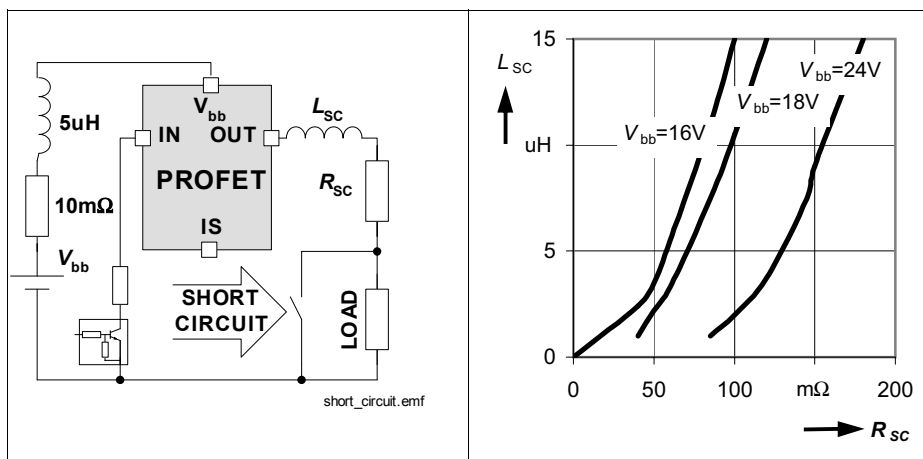

Figure 13 Short circuit
- 1) Short circuit is defined as a combination of remaining resistances and inductances. See Figure 13.
The capability to handle single short circuit events depends on the battery voltage as well as on the primary and secondary short impedance. **Figure 13** outlines allowable combinations for a single short circuit event of maximum, secondary inductance for given secondary resistance.